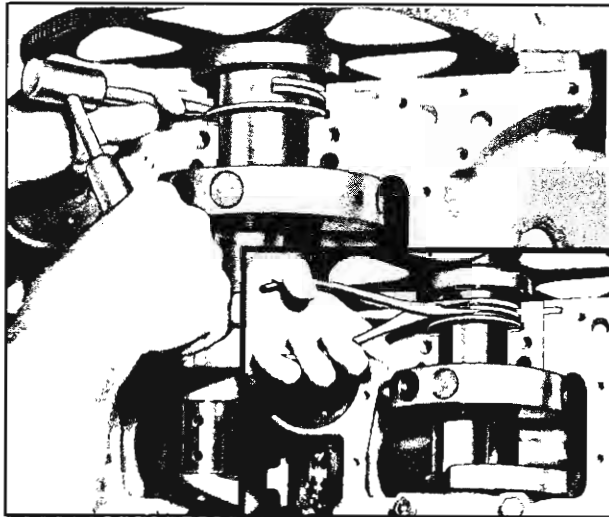

Fig. 153—Removing Oil Seal
- a. To replace the upper half of the seal, use a small hammer and tap a brass pin punch on one end of seal (fig. 153) until it protrudes far enough to be removed with pliers as shown in Figure 153.